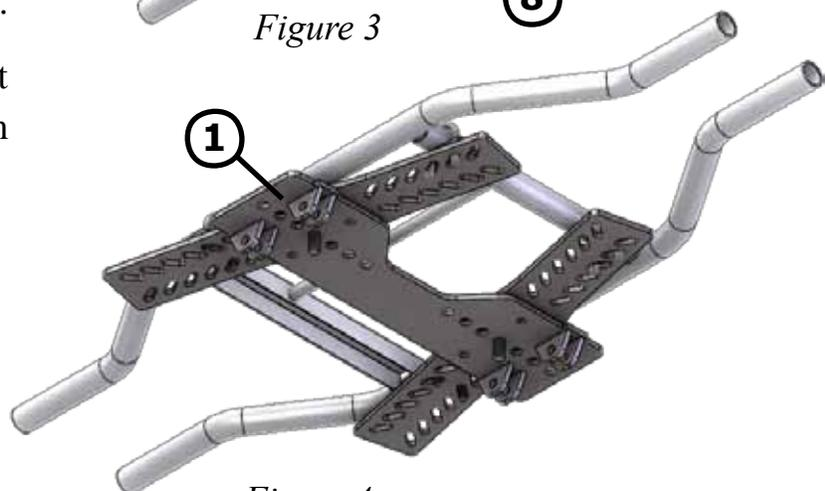

Figure 4
5. Loosely attach the universal mount weldment #1, using the fasteners #4. Shown in Figures 4 & 5.